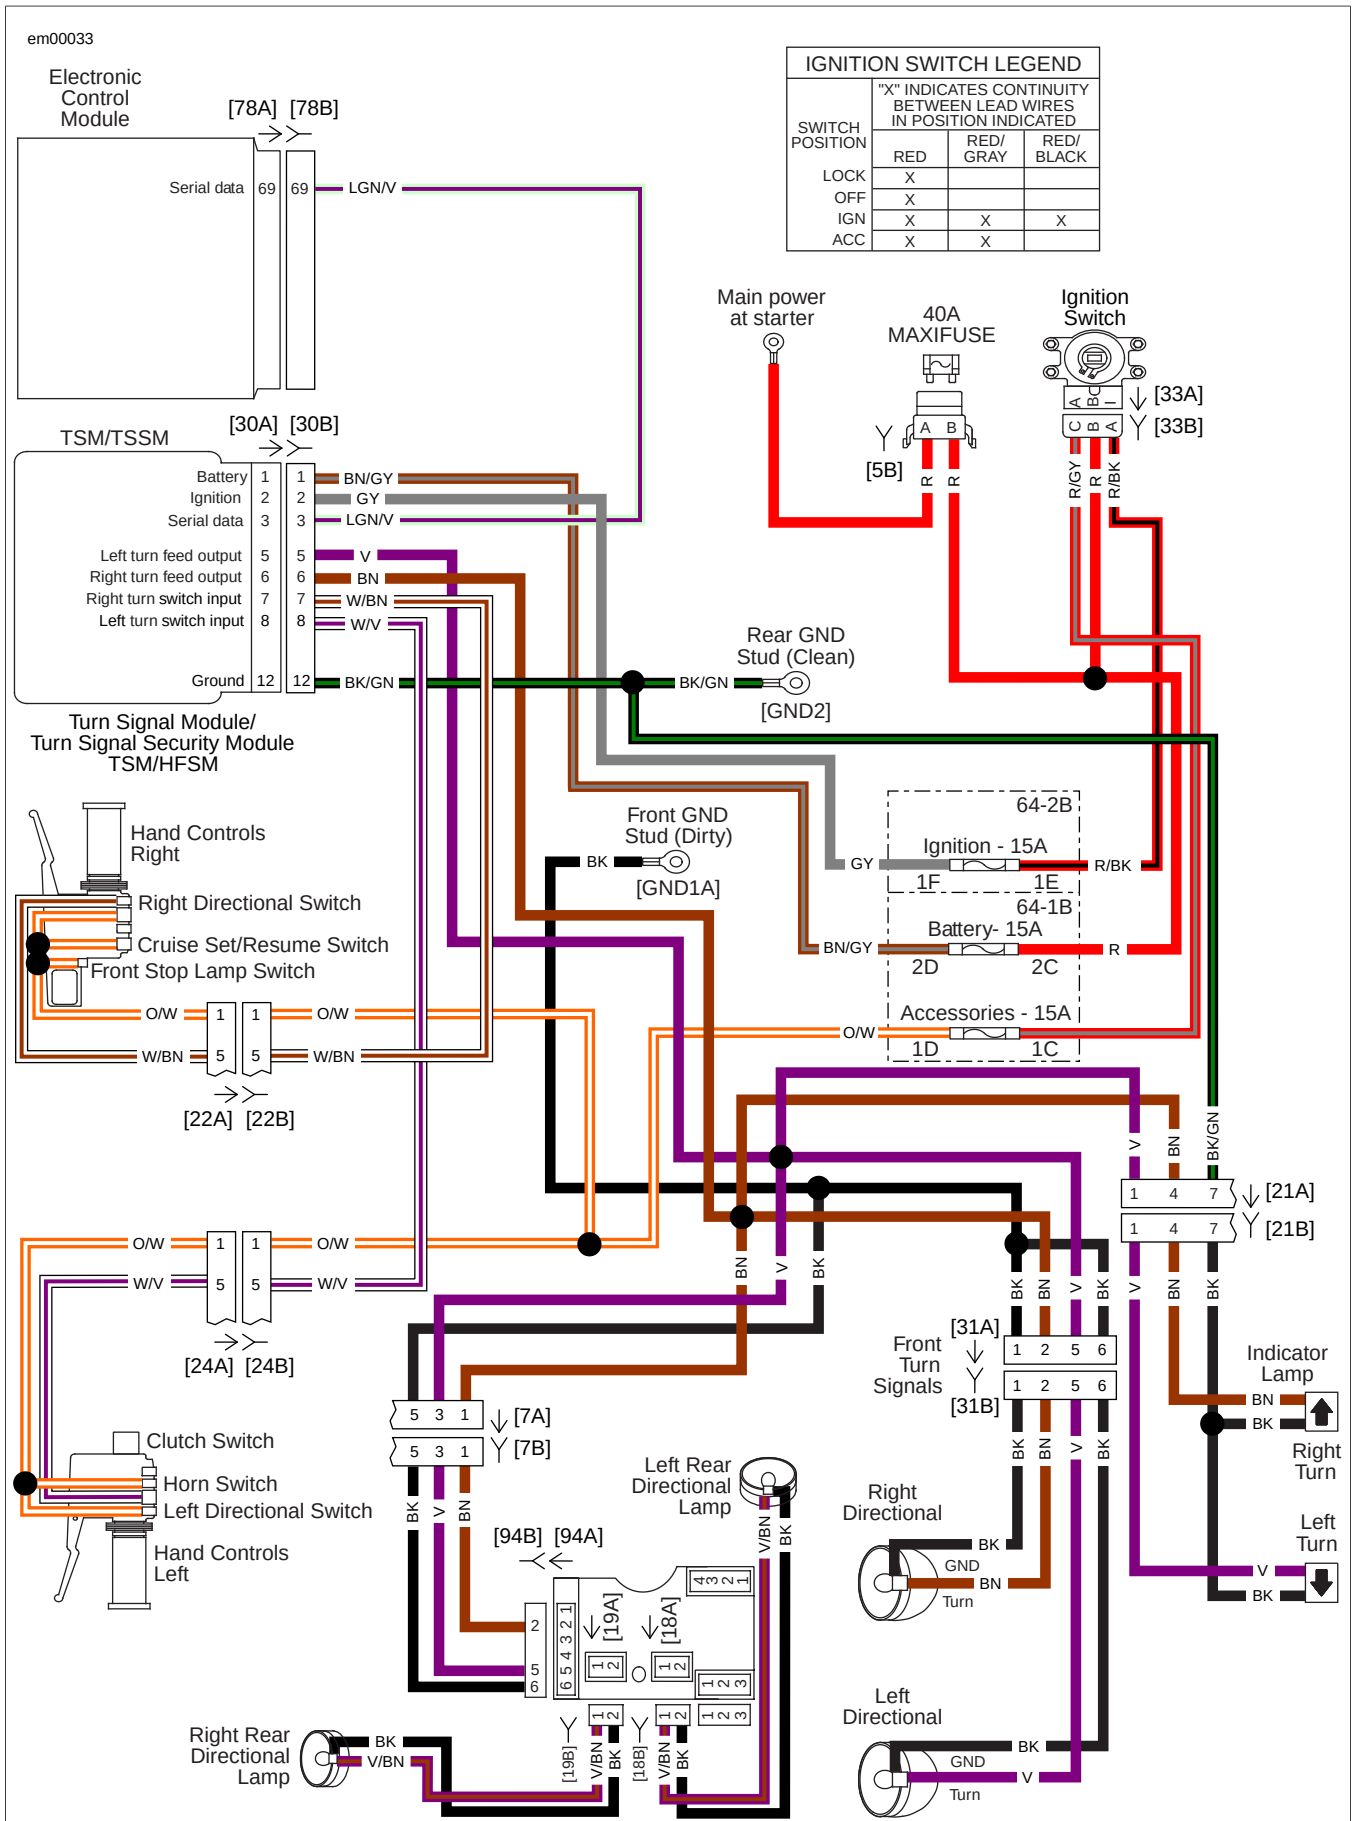

Figure E-18. Turn Signal Circuit (FLHR/C/S)
- See Figure E-18. Position TSM/TSSM in same orientation it is mounted on vehicle. Turn on Ignition Switch. Turn on 4-way flashers by depressing both left and right turn signal switches simultaneously. Turn Ignition Switch off; 4-way flashers should continue to flash.